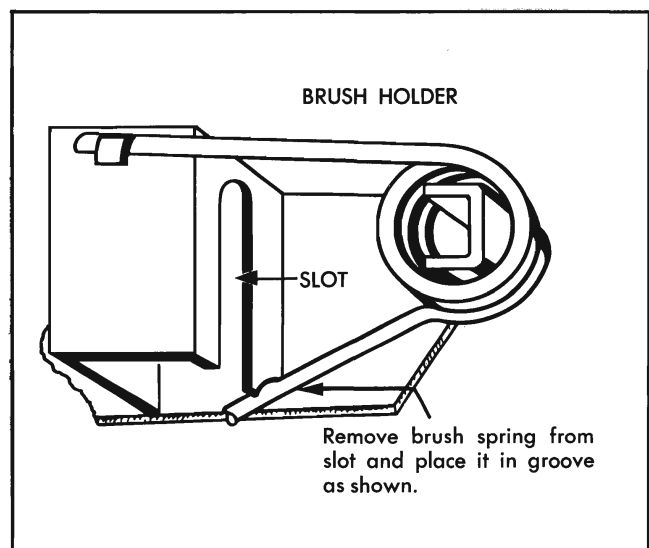

Fig. 11-84 Brush Spring
- c. Brush springs improperly positioned (See Fig. 11-84).
3. Release brush spring pressure against brushes as shown in Fig. 11-84.